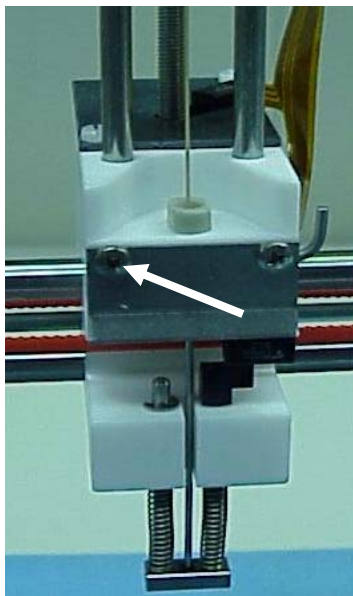

Fig. 7. Needle arm.
4. Remove the stainless steel bracket on the right hand side of the needle arm (2x philips screw, see marked screw in Fig. 7).